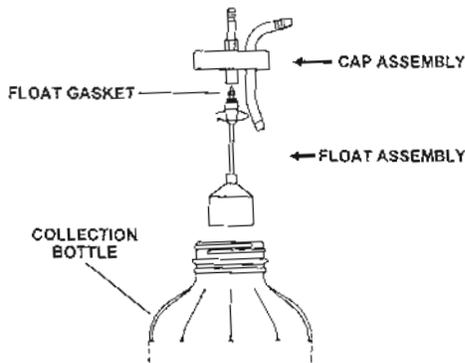

Figure 2-2. Assembling the cap and float assembly.
- (c) Screw the float assembly into the cap assembly by turning it in a counterclockwise direction (fig 2-2).